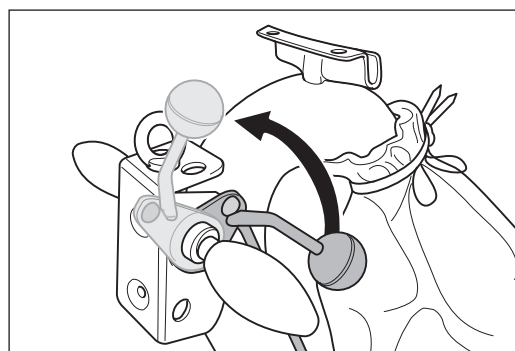

Fig. 12 Lift the sanding drum off the floor by turning the lowering lever at the handle upwards.
- **Always lift the sanding drum off the floor before switch on the machine (Fig. 12)!**
- 1 Lift the sanding drum off the floor by turning the lowering lever at the handle upwards (Fig. 12).
- 1 **Lift the sanding drum off the floor by turning the lowering lever at the handle upwards (Fig. 12)!**
- 1 Before switch off the machine lift the sanding drum off the floor by turning the lowering lever at the handle upwards (Fig. 12).